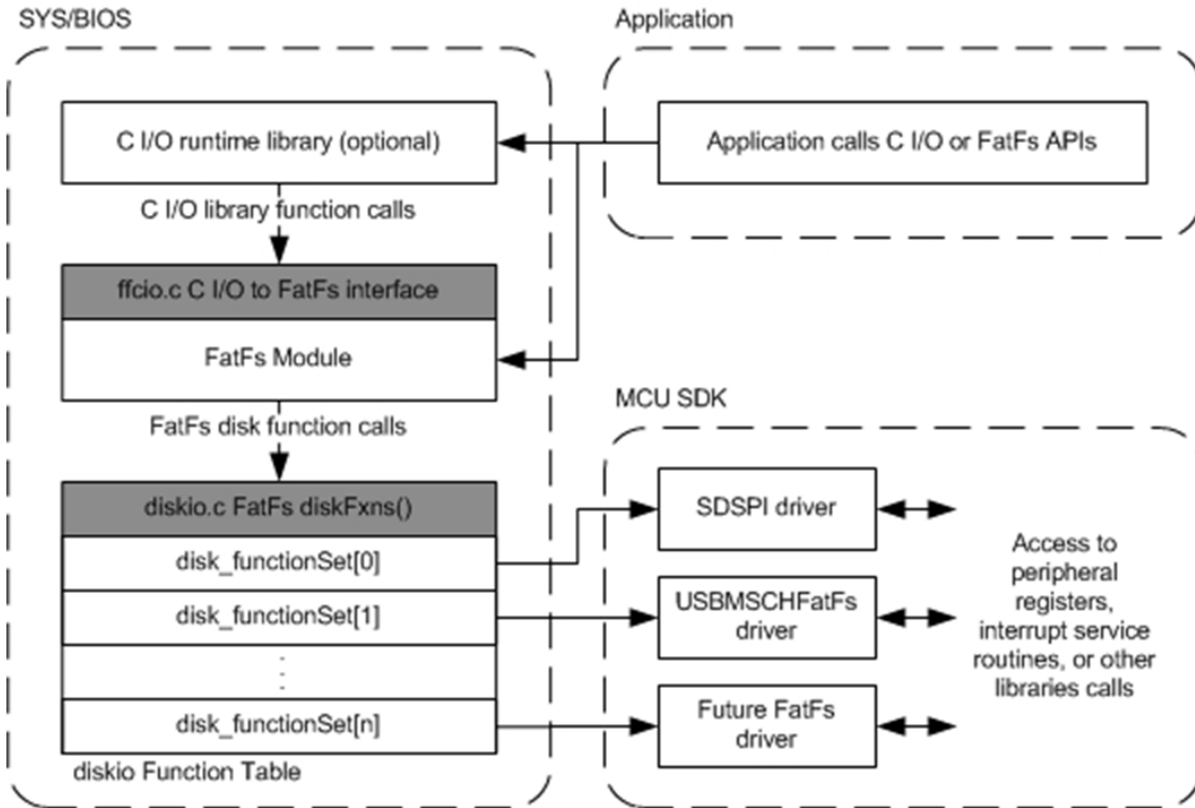

Figure 8-1 FatFs data flow
- FatFs drivers.** The last layer in Figure 8-1 is the FatFs drivers. MCU SDK comes with pre-built FatFs drivers that plug into the FatFS module provided by SYS/BIOS. A FatFs driver has no knowledge of the internal workings of FatFs. Its only task is to perform disk-specific operations such as initialization, reading, and writing. The FatFs driver performs read and write operations in data block units called sectors (commonly 512 bytes). Details about writing data to the device are left to the particular FatFs driver, which typically accesses a peripheral's hardware registers or uses a driver library.